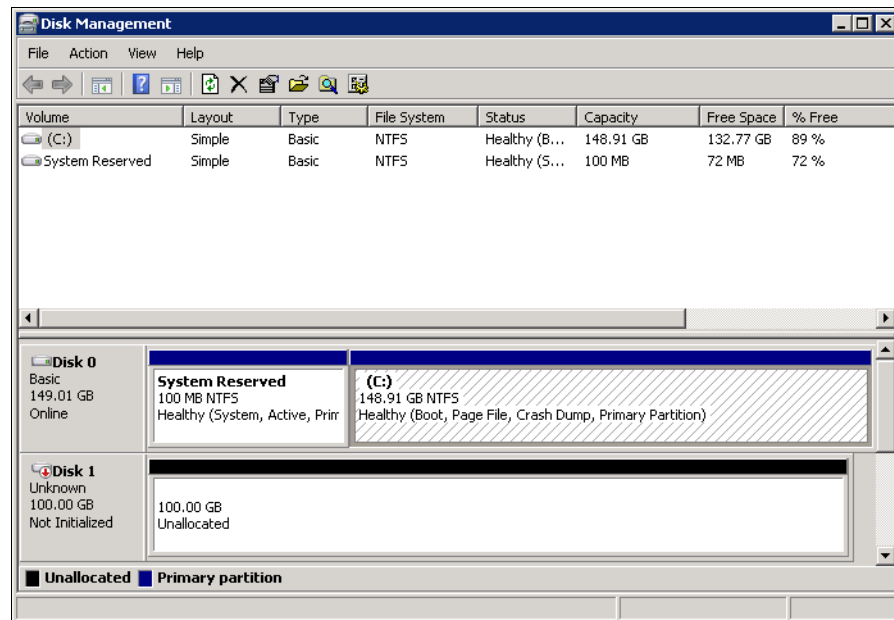

Figure 5-49 Windows Disk Management
- Open the Windows Disk Management window (as shown in Figure 5-49) by clicking **Start** → **Run**. Enter `diskmgmt.msc` and click **OK**.